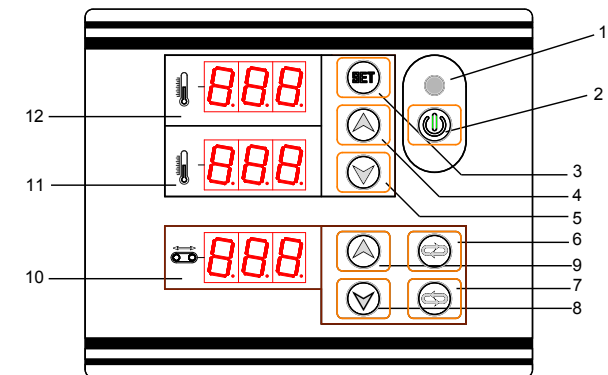

Figure 1.
4. The unit is provided with a number of control functions as detailed in Fig.1